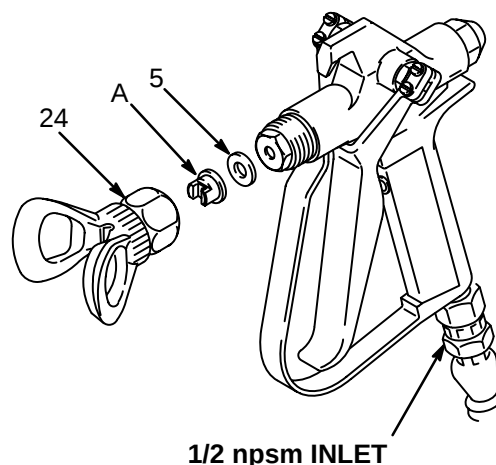

Fig 1
4. With the gun safety latch engaged (see Fig 2), unscrew the tip guard (24) and install the tip (A) and gasket (5) in the nut of the tip guard. Screw the assembly firmly onto the gun. Tighten with a wrench. See Fig 1.